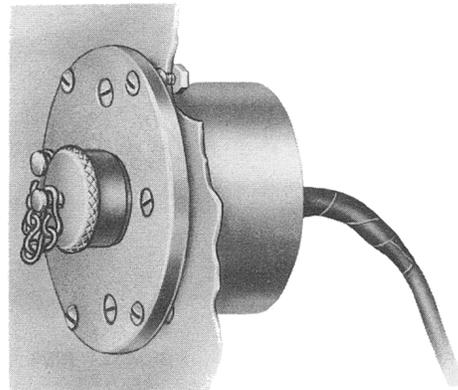

Fig. 21 — Installation of KS-8420 Jack
**2.21** The KS-8420 jack (Fig. 21) is a flush-mounted, 3-contact jack housed in a brass housing with a screw cap to cover the opening when not in use. It is intended for outdoor use as an outlet for central office lines or for telephone sets installed on boats, trains, or auto trailers. This jack is suitable for use with the KS-8419 plug.